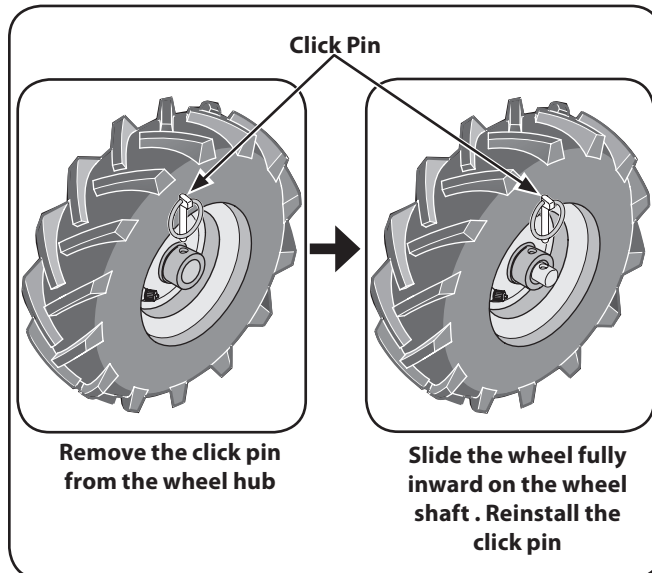

Figure 3-4
1. Place a sturdy block under the transmission to raise one wheel about 1" off the ground. Remove the click pin from the wheel hub and wheel shaft. See Figure 3-4.
2. Slide the wheel fully inward on the wheel shaft. Reinstall the click pin through the wheel shaft only (not through the wheel hub). See Figure 3-4. The wheel should now spin freely (freewheel) on the wheel shaft. Repeat with the other wheel.